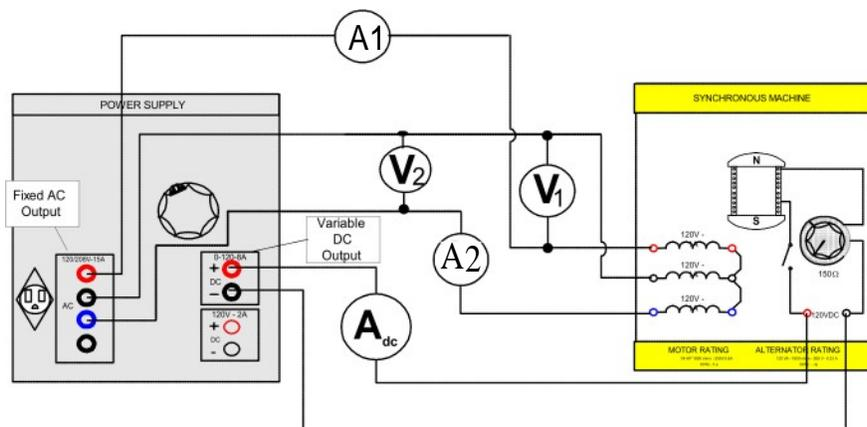

FIGURE 9.6
Step 13: a) Using your EMS Synchronous Machine, Power Supply and Data Acquisition Interface (DAI) modules in the EMS workstation, connect the circuit shown in figure 9.6. Note that the stator windings are connected, through the wattmeter, to the fixed 208V 3 ϕ output of the power supply, terminals 1, 2 and 3. The rotor winding is connected, through the ammeter, to the variable 0-120Vdc output of the power supply, terminals 7 and N. The voltage adjust control knob should be at zero.